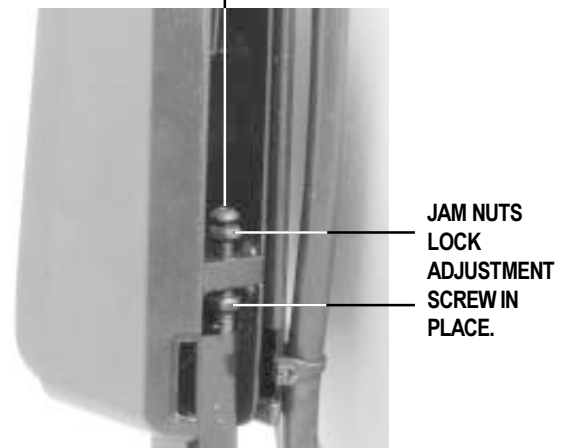

Figure 9. Armrest Angle
2. Use a wrench to loosen the jam nuts. See figure 9.
3. Use a hex key to loosen the setscrew. See figure 9.